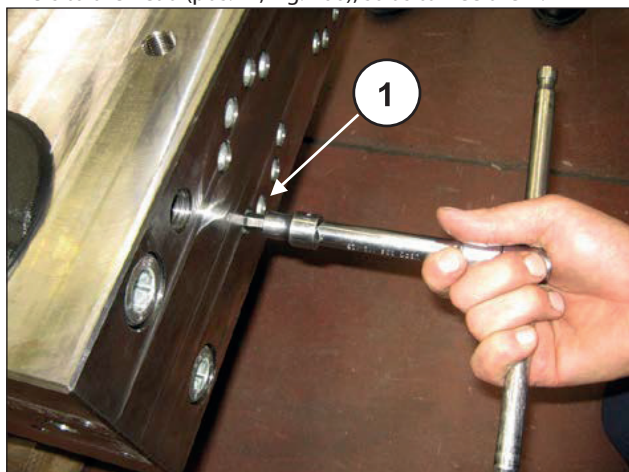
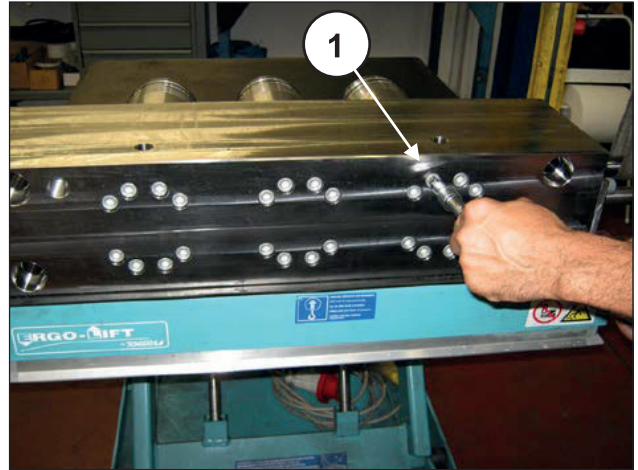
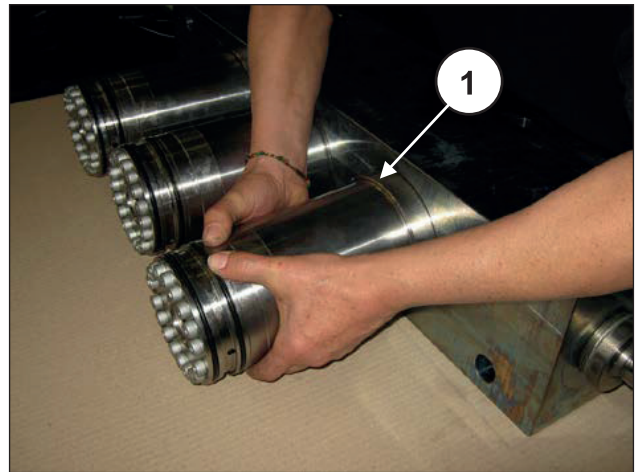

Fig. 166
Fig. 173
Fig. 174
Loosen but do not remove the M12x160 screws fastening the liners to the head (pos. ①, Fig. 166), so as to free them.
Remove the M12x160 screws fastening the liners to the head (pos. ①, Fig. 173) and remove the liner units (pos. ①, Fig. 174).
Remove the head from the head spacer secured to the pump casing as indicated in point 2.2.1 (from Fig. 166 to Fig. 174).